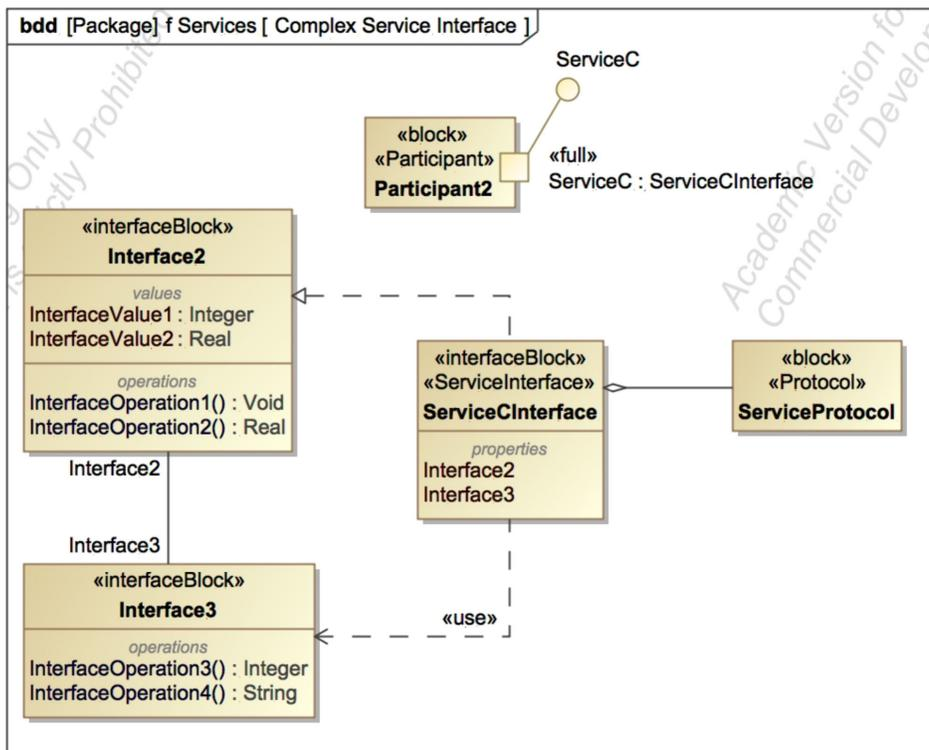

Figure D2. Complex Service
- A Complex Service Interface is commonly composed of multiple Interfaces and typically incorporates a Protocol. Fig. D2 shows an example.